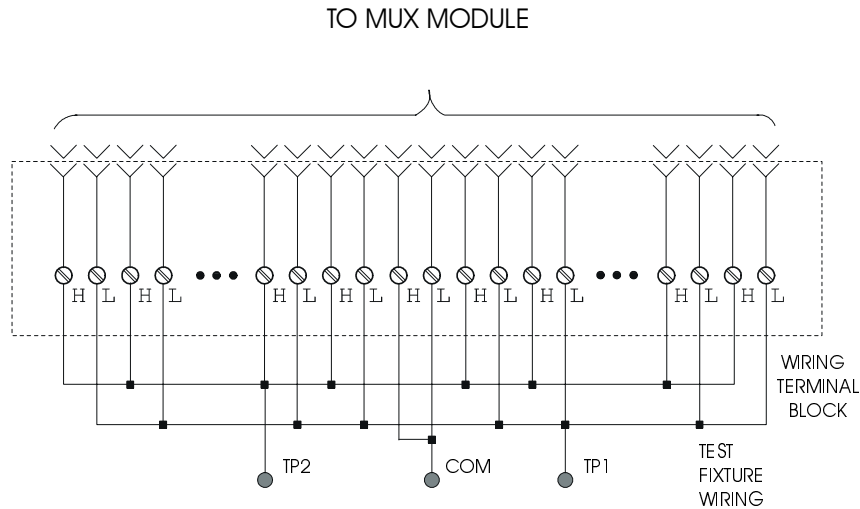

Figure 4-1. MUX Modules Test Fixture
MUX module's removable wiring terminal block as shown in Figure 4-1.
6. Connect the Multimeter between COM & TP1 (or COM & TP2) on the test fixture (Figure 4-1 on Page 63);